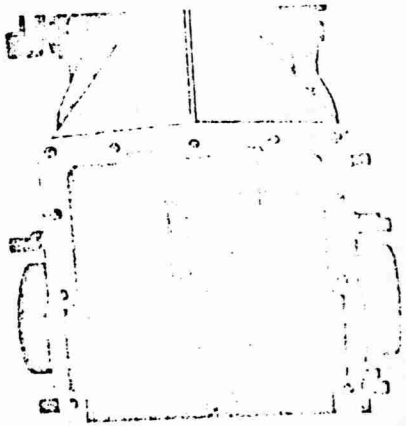

Fig. 33
Place the appropriate distance gauges between plug gauge and face of output shaft (Fig. 33). Push measuring ring . 6 . over the rear housing end of the output shaft until it rests against the shaft collar. Determine distance between measuring ring and contact face of rear housing with a depth gauge (Fig. 34). Deduct measurement from housing contact face to seating surface of the bearing in the rear housing. The difference between these two measurements corresponds to the thickness of the shims, which must be placed between the collar of the ball bearing (420) and the rear housing. The shims (419) are available in the following sizes: 0,1 ; 0,15 ; 0,3 ; 0,5 ; 0,6 ; 0,7 ; 0,8 ; 0,9 ; 1,0 ; 1,1 ; 1,2 ; 1,3 and 1,4 mm.